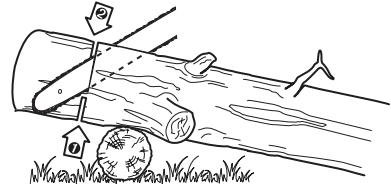

Fig. 31
2. When the log is supported on one end (Fig. 31), cut 1/3 the diameter from the undersides (underbuck). Then make the finished cut by overbucking to meet the first cut.